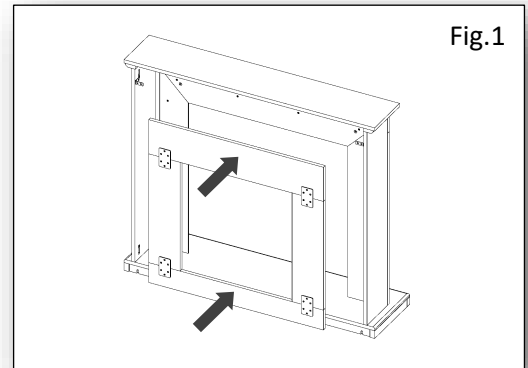

Fig.1
2. Position the Back Panel (H) into the Surround (A) from the rear. Fig.1.